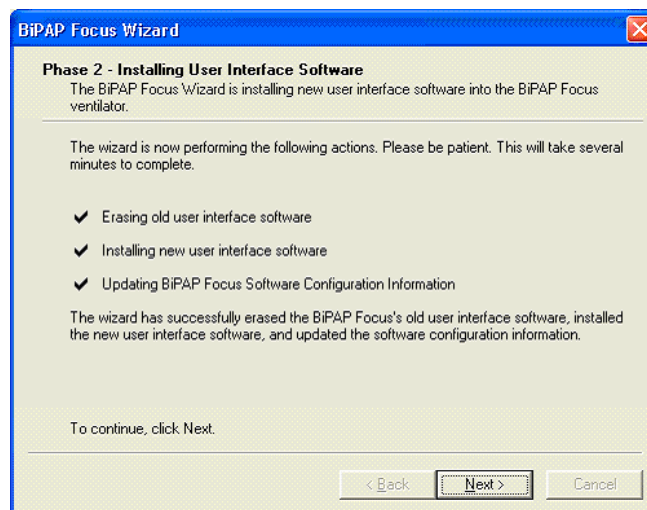

Figure 6-18: New Software Installation
10. The screen then displays the user interface software installation process, including erasing old user interface software, installing new interface software, and updating software configuration information (Figure 6-18). Click **Next**.